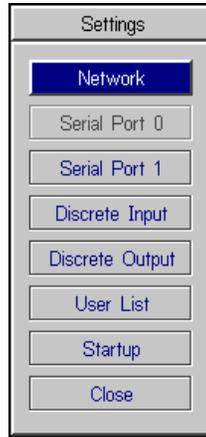

Figure A-2: Settings Menu
4. Select Settings to open the Settings menu (Figure A-2).